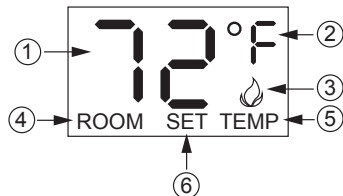

Figure 24 - Remote Control Display
4. Press the ON button on the remote control to light the burner (see Figure 24). You will hear a series of beeps. This will also "learn", or program, the remote and the receiver.